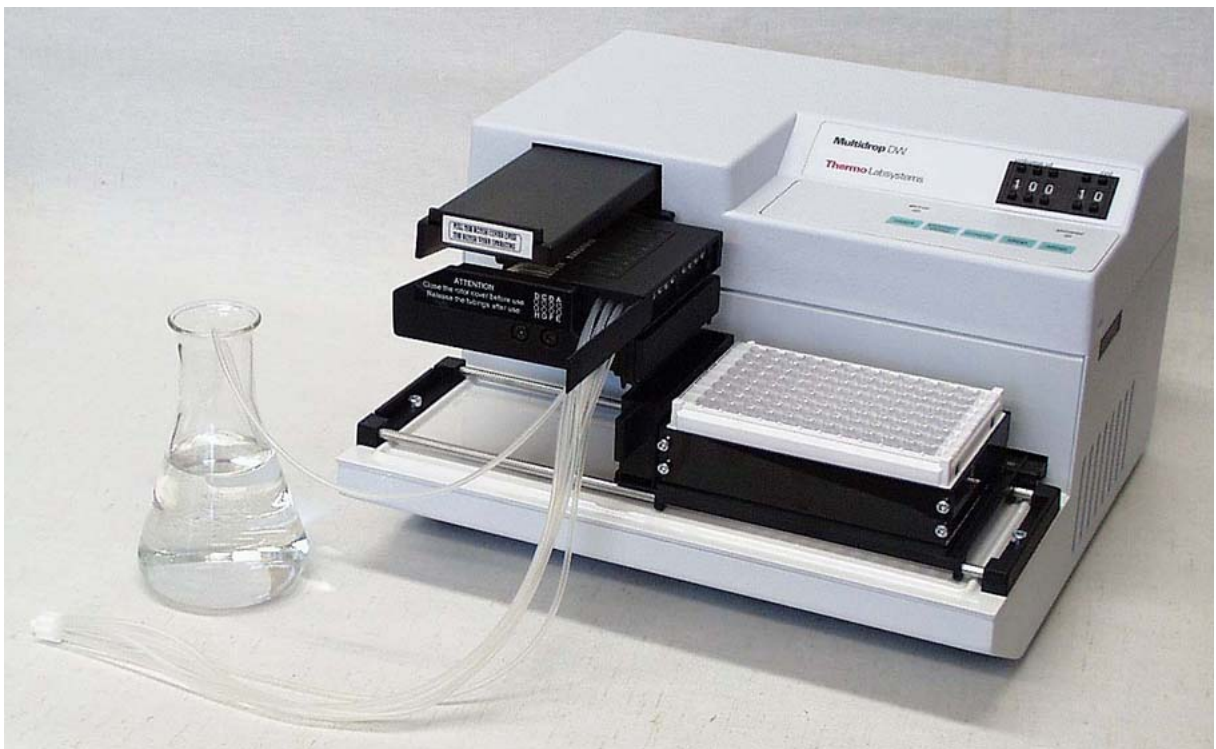

Fig. 7.8 8 x 12 well microstrips adjusted onto the plate adapter
6. Use 8 x 12 well microstrips and adjust the Multidrop DW for 100 μ l in 10 columns (*Fig. 7.8*).